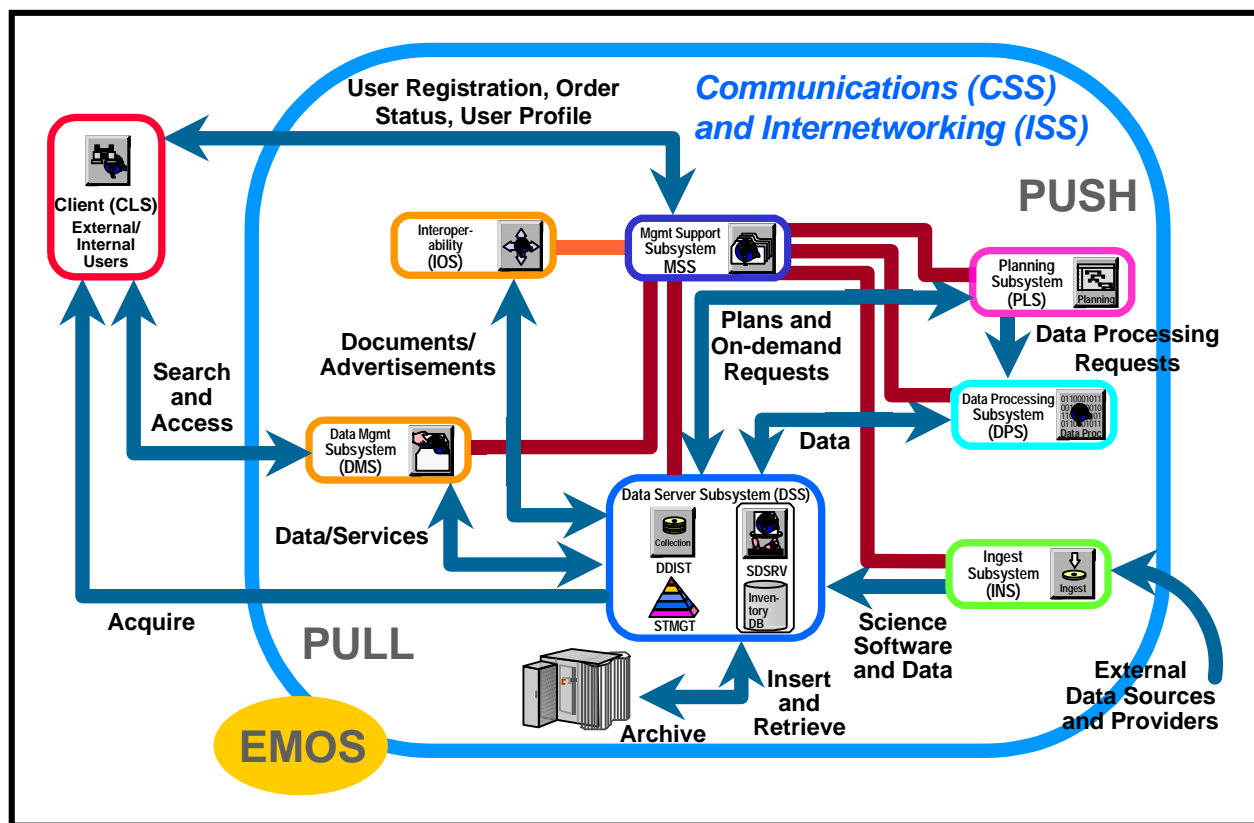
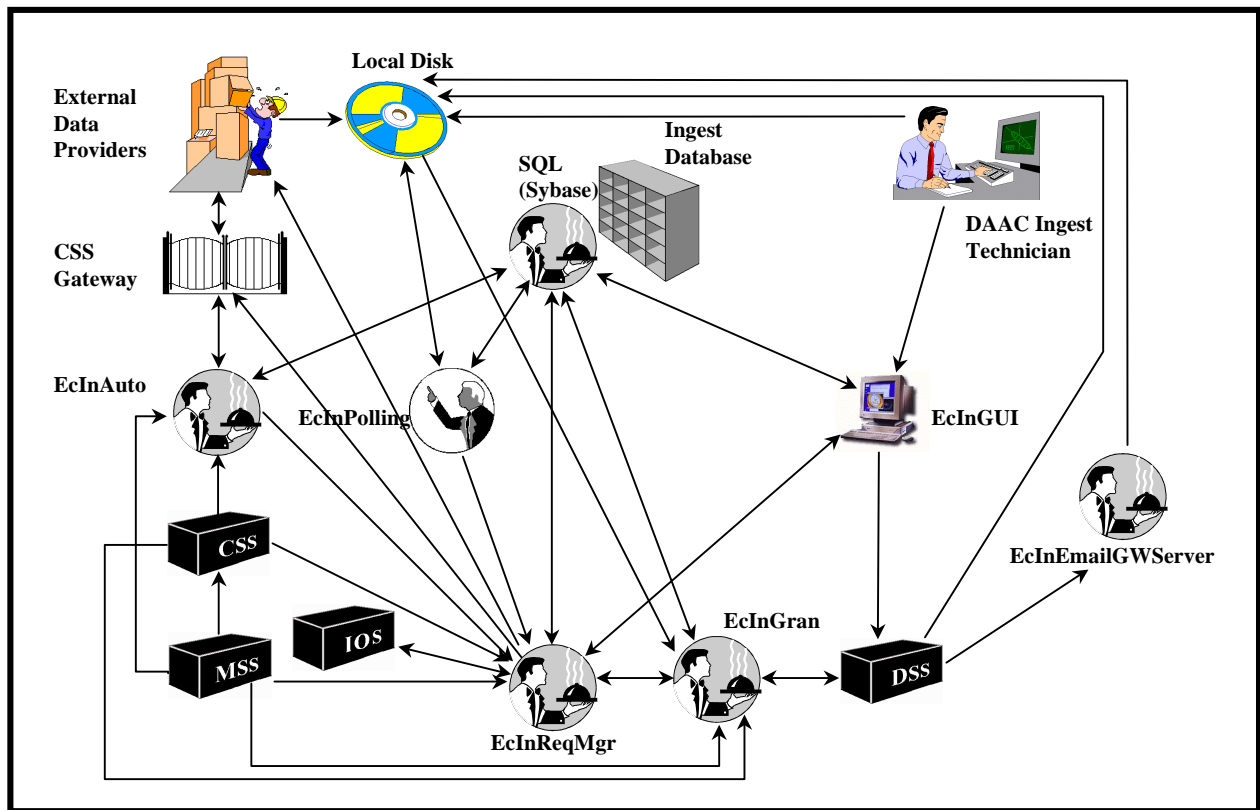

Figure 1. ECS Context Diagram
Figure 2. Ingest Subsystem (INS) Architecture Diagram
The ECS Context Diagram (Figure 1) shows the relationships among subsystems within the Science Data Processing component of ECS. The Ingest Subsystem (INS) is the point of entry to ECS for data from external data providers. The Data Server Subsystem (DSS) manages access to the data repositories, where ingested data are stored. Of course, the context diagram shows a generalized (high-level) view of ECS. The Ingest architecture diagram (Figure 2) focuses on the Ingest process and its relationships with other subsystems. The Storage Management (STMGT) and Science Data Server (SDSRV) architecture diagrams (Figures 2 and 3 respectively) focus on those two individual computer software configuration items (CSCIs) of the Data Server Subsystem and their relationships with each other and with other subsystems.
- Ingest (Figure 2) transfers data into ECS, performs preprocessing, and forwards the data to DSS for archiving.
The Ingest Subsystem (INS) is composed of just one CSCI; i.e., INGST. (The designation “INGST” is derived from **INGEST**.) The subsystem has the following major components as shown in Figure 2: